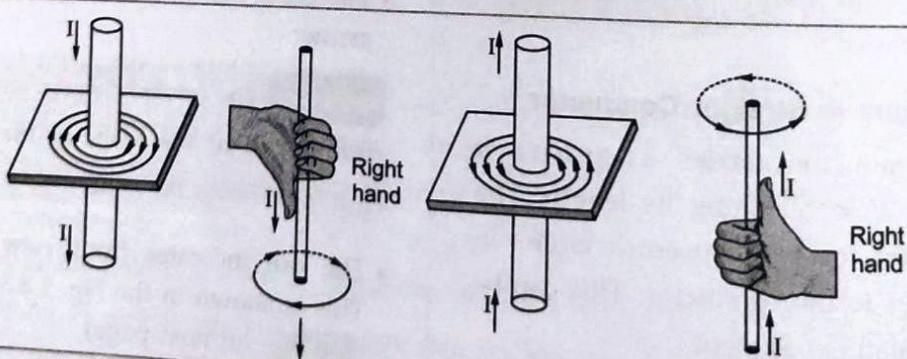

Fig. 1.8.5 Direction of magnetic lines by right hand thumb rule
- Let us apply this rule to the conductor passing through card sheet considered earlier. This can be explained by the Fig. 1.8.5.